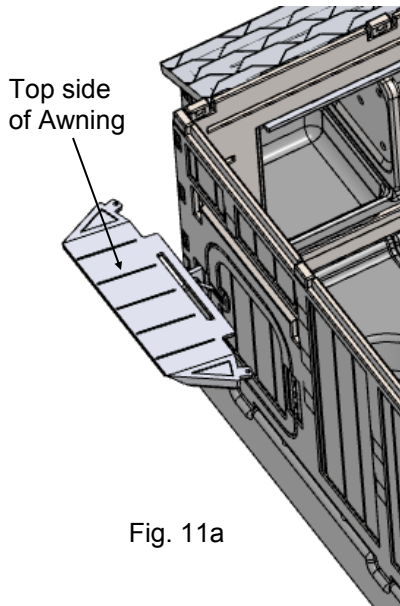
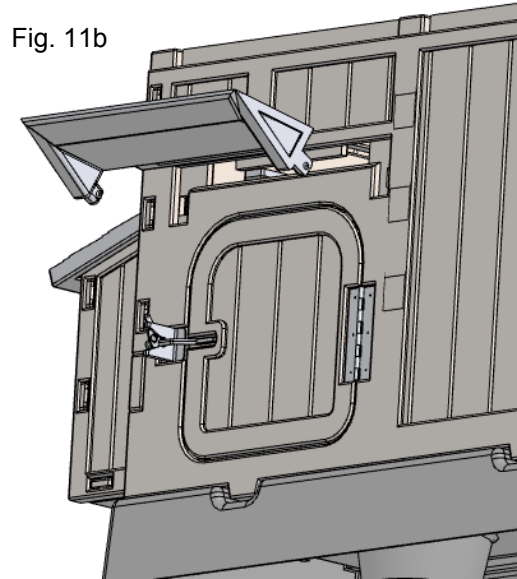
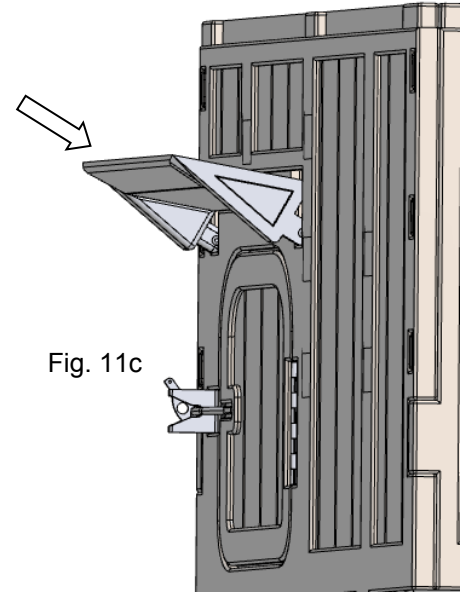

Fig. 11a
Fig. 11b
Fig. 11c
**Step 11:** Assemble the Awning to the Front Wall. The top of the Awning is the side that has five lines formed in it (Fig. 11a). Fold both ends of the Awning down 90 degrees (Fig. 11b). Insert the Awning into the opening above the door of the Front Wall at an angle (Fig. 11c).